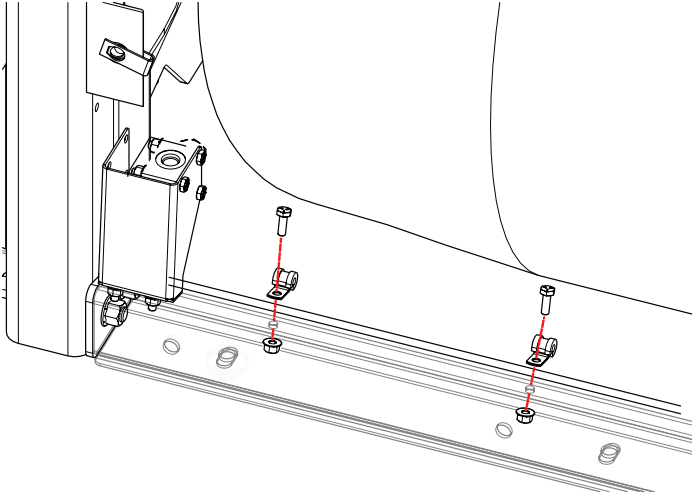

Figure 13: Remove and retain the bolts, nuts, and clamps that secure the trigger line to the rail. Quantity is dependent on length of trigger line.
3. Remove and retain the bolts, nuts, and loom clamps that secure the trigger line to the rail (Figure 13). Quantity is dependent upon the CNG system and length of the trigger line/rail.